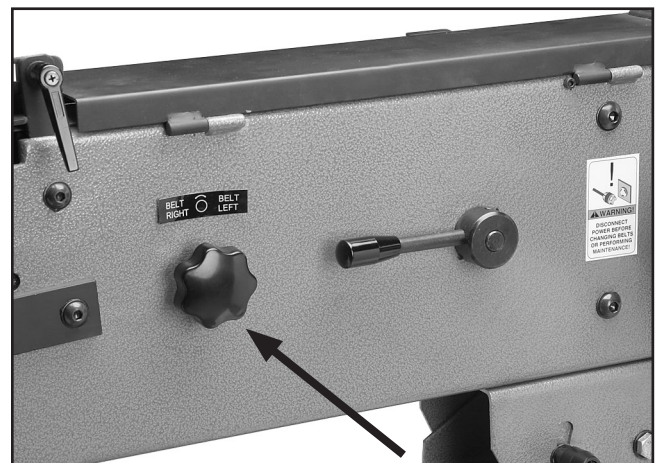

Figure 17. Belt tracking adjustment knob.
2. Making small adjustments, turn the belt tracking adjustment knob clockwise to move the belt to the left, or turn the knob counter-clockwise to move the belt to the right (see **Figure 17**).